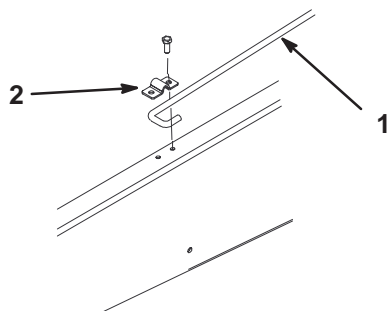

Figure 10
5. Have another person help to raise the cargo box until the "J" hook end of the prop rod is positioned between the 2 holes on the left frame rail (Fig. 10).
6. Secure the prop rod to the frame rail with the prop rod clip and 2 screws (5/16 x 3/4 in.) (Fig. 10).